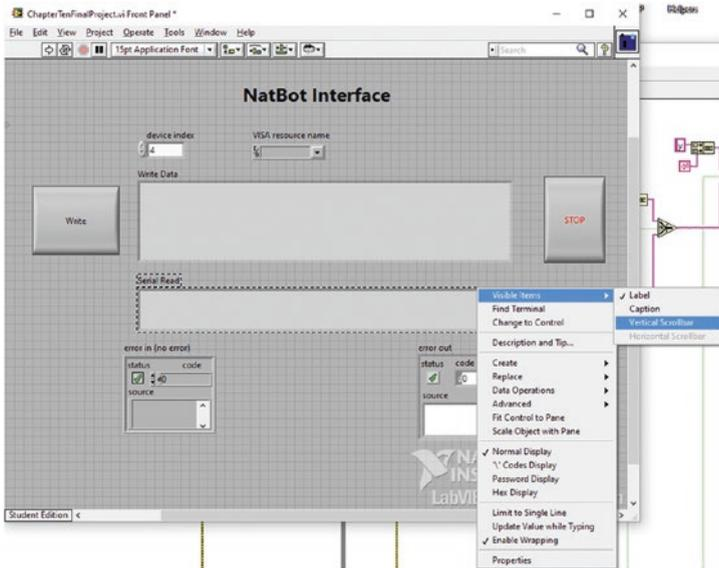

Figure 10-31. Make the vertical scrollbar visible
6. To add a vertical scrollbar to the “Serial Read” indicator, right-click the indicator and go to Visible Items ► Vertical Scrollbar, and the scrollbar will appear. See Figures 10-31 and 10-32.